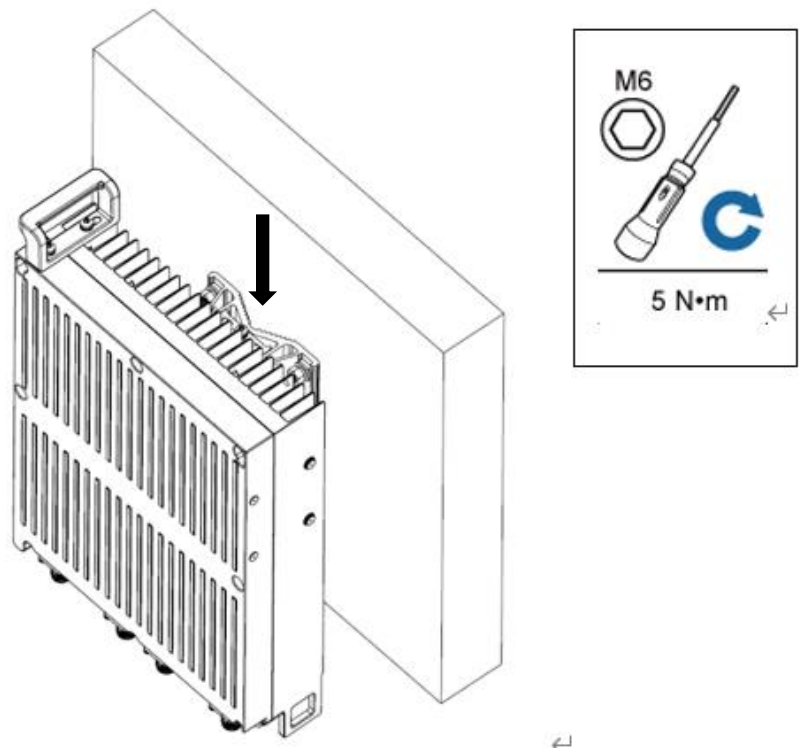
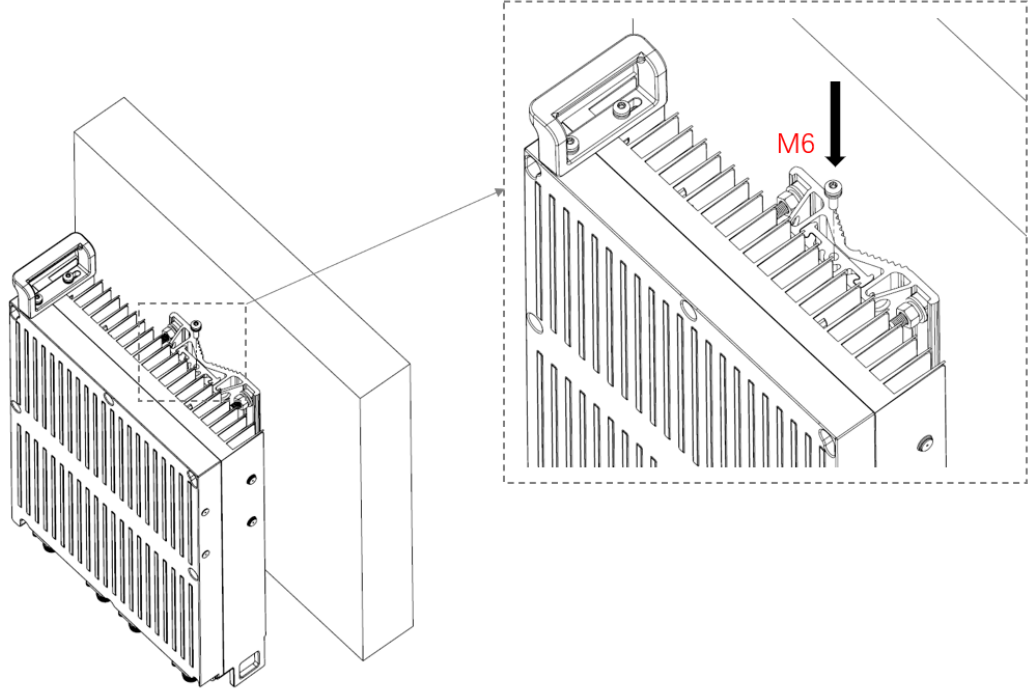

Figure 3-14 Installing the ORRU onto the main bracket
Figure 3-15 Tighten the M6 screw onto the bracket
Step 6: Install the ORRU onto the main bracket and tighten the M6 stainless screws as shown in Figure 3-14 and Figure 3-15.